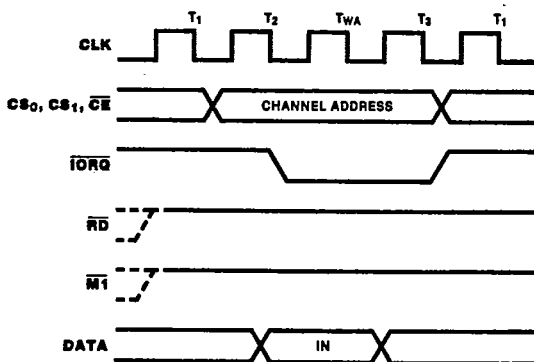

Figure 2. Write Cycle Timing
**Write Cycle Timing.** Figure 2 shows write cycle timing for loading control, time constant, or vector words.